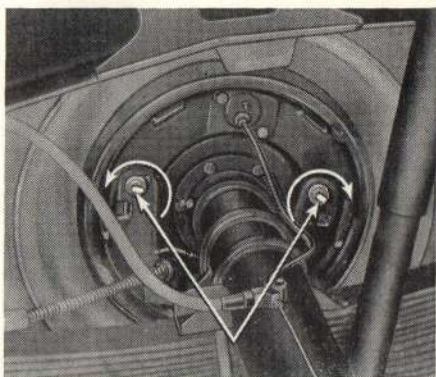

FIG. 31—BRAKE ADJUSTMENTS
3. At each *left front* and *left rear* wheel turn the *forward* shoe adjusting cam *clockwise* until the shoe is tight against the drum. Turn the cam in the opposite direction until the wheel rotates freely without brake drag. Turn the *rear* shoe adjusting cam *counter-clockwise* until the shoe is tight against the drum, then turn the cam in the opposite direction until the wheel rotates freely without drag. See Fig. 31.